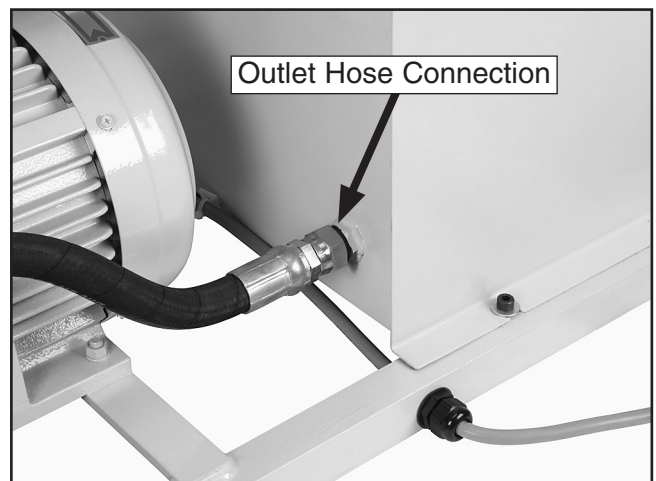

Figure 57. Hydraulic reservoir outlet hose connection.
5. Position an oil catch pan under the outlet connection (see **Figure 57**) of the reservoir, and carefully remove the outlet hose to drain the contents of the reservoir.